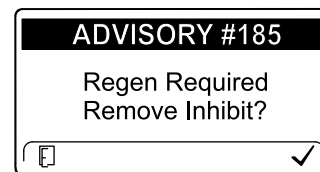

Figure 75
**Note:** If you set the InfoCenter to inhibit regeneration, the InfoCenter displays ADVISORY #185 (Figure 75) every 15 minutes while the engine requests a reset regeneration.